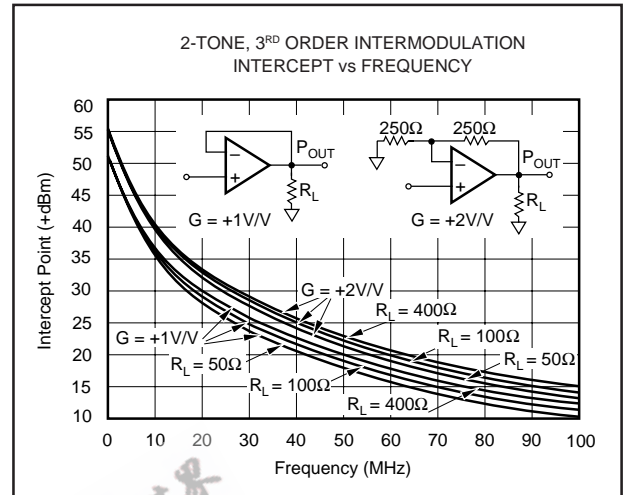

FIGURE 9. 2-Tone, 3rd Order Intermodulation Intercept vs Frequency.
Two-tone third-order intermodulation (IM) is an important parameter for many RF amplifier applications. Figure 9 shows the OPA620's two-tone third-order IM intercept vs frequency. For these measurements, tones were spaced 1MHz apart. This curve is particularly useful for determining the magnitude of the third-order IM products as a function of frequency, load resistance, and gain. For example, assume that the application requires the OPA620 to operate in a gain of +2V/V and drive 2Vp-p (4dBm for each tone) into 50Ω at a frequency of 10MHz. Referring to Figure 9 we find that the intercept point is +40dBm. The magnitude of the third-order IM products can now be easily calculated from the expression: